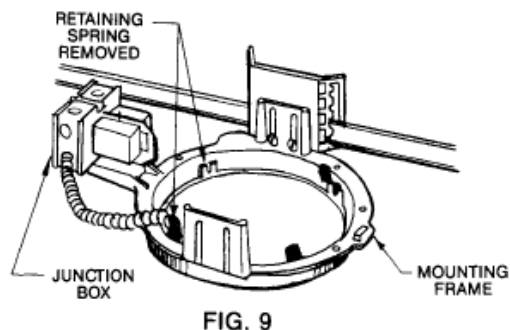

FIG. 9
1. Remove two RETAINING SPRINGS that are near the JUNCTION BOX from the MOUNTING FRAME (Fig. 9).